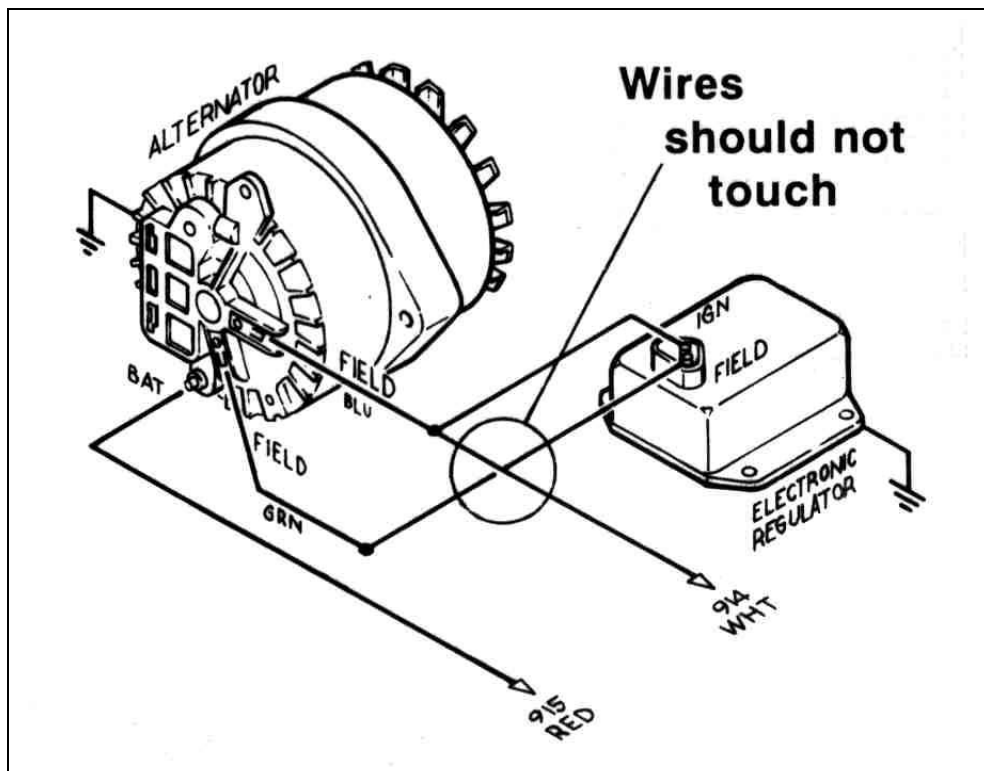

Figure 4-1A Mopar Alternator
- 4.1.2** Connect Key-On power wire #914 (wht) to the Alternator Field (F) terminal as shown in **Figure 4-1A**. Connect Battery wire #915 (red) to the Alternator Output lug (Bat).